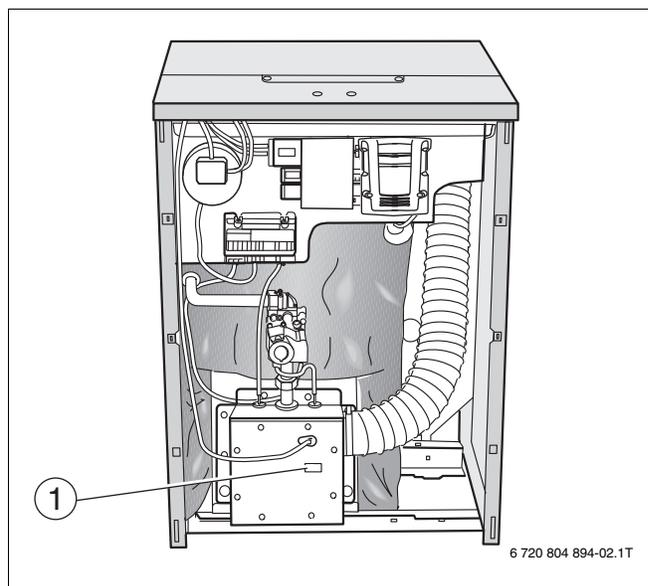
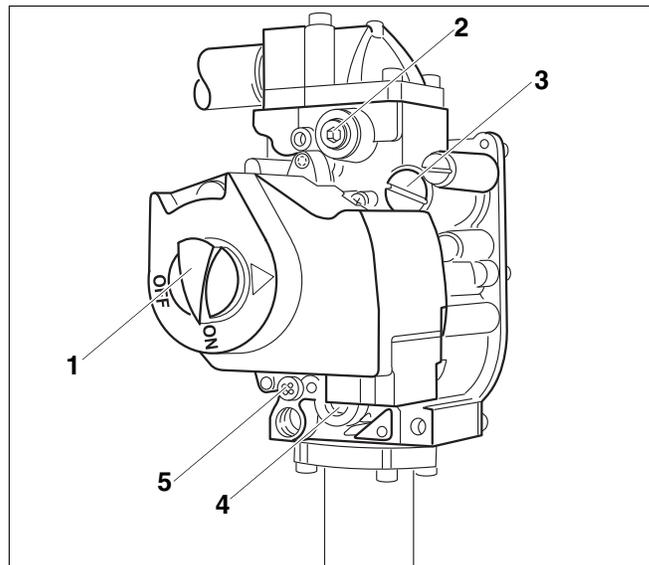

Fig. 11 Front view
Fig. 12 Gas valve
11. Check manifold pressure. The nozzle pressure must be set in accordance with the values in → Tab. 2. To set the manifold pressure the cover (→ Fig. 12) on the gas valve must be removed. Turn the adjustment screw clockwise to increase the pressure and counterclockwise to reduce the pressure. This setting must be adjusted while the boiler is operating.
12. Record the set value in the commissioning protocol of the installation and maintenance instructions and screw the safety screw (→ Fig. 12, page 11) into the gas valve again.
13. Observe ignition flame through the sight glass (→ Fig. 11, page 10) in the burner housing.
The adjustment screw is behind the ignition gas pressure adjustment safety screw (→ Fig. 12, page 11).
16. Remove safety screw for pilot ignition pressure setting (→ Fig. 12, page 11). Turn the inner adjustment screw clockwise to reduce the ignition flame and counterclockwise to enlarge the ignition flame.
17. After adjustment tighten the ignition gas pressure adjustment safety screw (→ Fig. 12, page 11) again.
18. Observe main burner flame through the sight glass (→ Fig. 11, page 10) in the burner housing. The flame must have a steady and fixed contour and generally has a bluish color. If the main burner flame meets the requirements, proceed with step 21. If the main burner flame is too weak or is yellow or goes out, turn the ON/OFF switch (→ Fig. 12, page 11) on the gas valve clockwise to OFF. Close the gas valve and disconnect the heating system from the power supply and contact the customer service technician or the gas company.